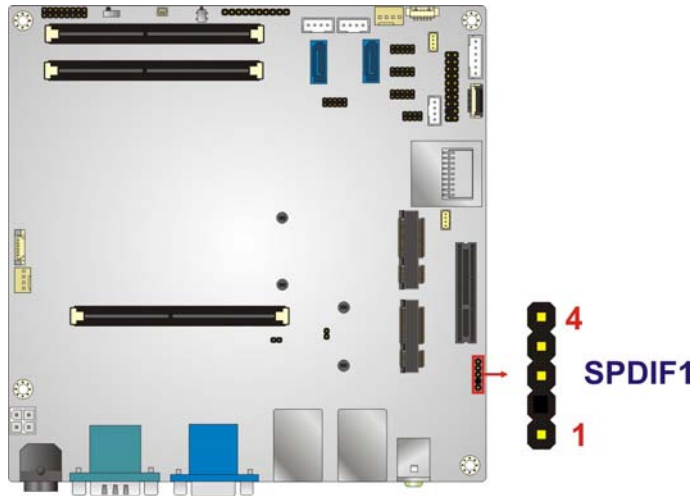

Figure 3-22: SPDIF Connector Location
- CN Location: See **Figure 3-22**